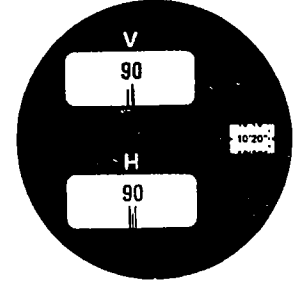

Fig. 28
- d. Loosen the horizontal clamp $\textcircled{2}$. Turn the instrument 90° clockwise. Tighten the horizontal clamp. Turn the horizontal fine motion $\textcircled{1}$ until the 90° double line is bisected by the H window index, Fig. 28.